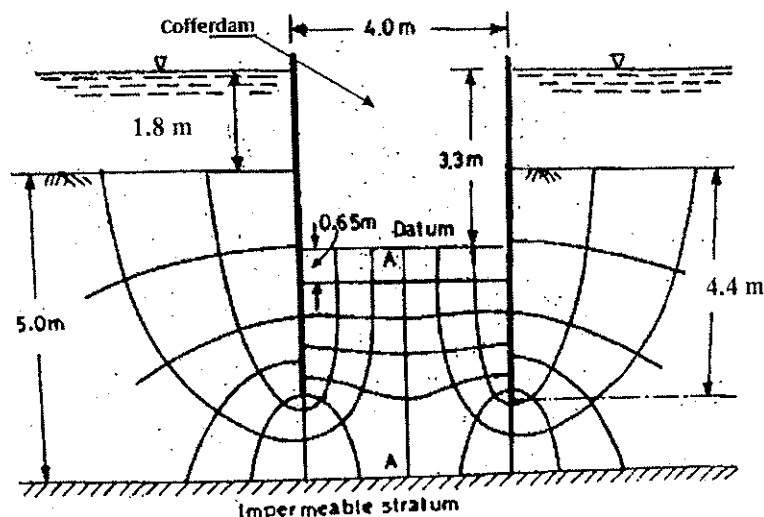

Fig. 1
- [2] Two rows of sheet piles are driven to a depth of 4.4 m below the bed of a river to form a coffer dam. Excavation is then carried out within the coffer dam up to a depth of 3.3 m below water level by keeping the area free from water by pumping. The riverbed is sand with $k = 3 \times 10^{-3}$ cm/s and is underlain by an impermeable stratum at a depth of 6.0 m below the riverbed as shown in Fig. 1.